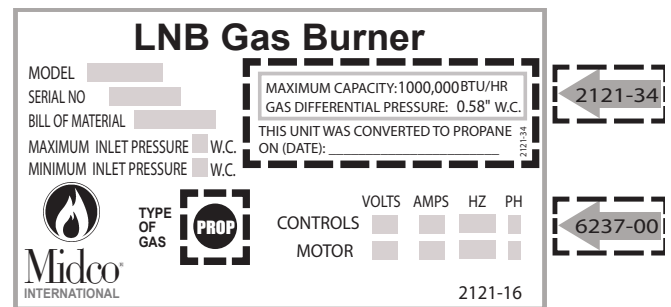

Figure 2 - Kit Label Placement -Covering Specs and Gas Type
5. Fill out tags/labels provided in conversion kit and attach/apply to burner and control box as shown in Figure 2.